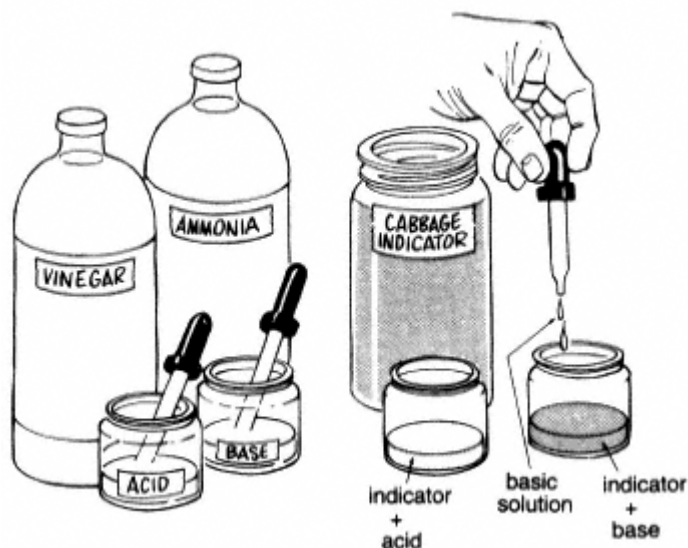

Figure 11.1
8. Add drops of the basic solution to the other small jar of cabbage indicator; swirl to mix. Continue until a definite color change is observed (see Figure 11.1).